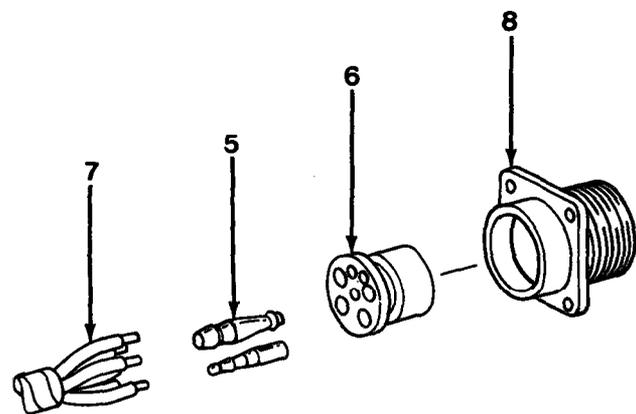

Figure 10-3
1. Strip cable insulation equal to depth of solder wells of socket contacts (5, Figure 10-3).